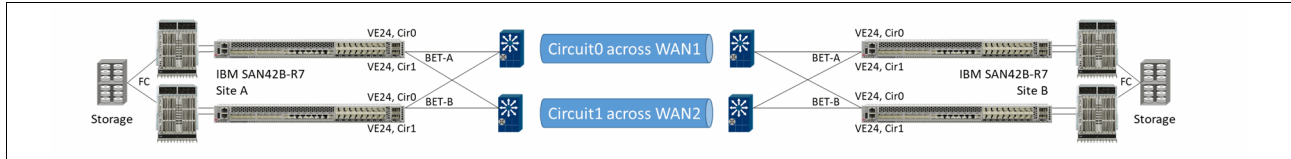

Figure 8-4 Dual fabric Fibre Channel over IP architecture extending a production fabric
A production fabric can be extended, as shown in Figure 8-4, although only when there are compelling reasons. A common reason is distributed tape or host-based replication in which many devices generate traffic to a DR site. In a tape scenario, Open Systems Tape Pipelining (OSTP) may be used in a virtual fabric logical switch (LS) that isolates the tape connections and VE.